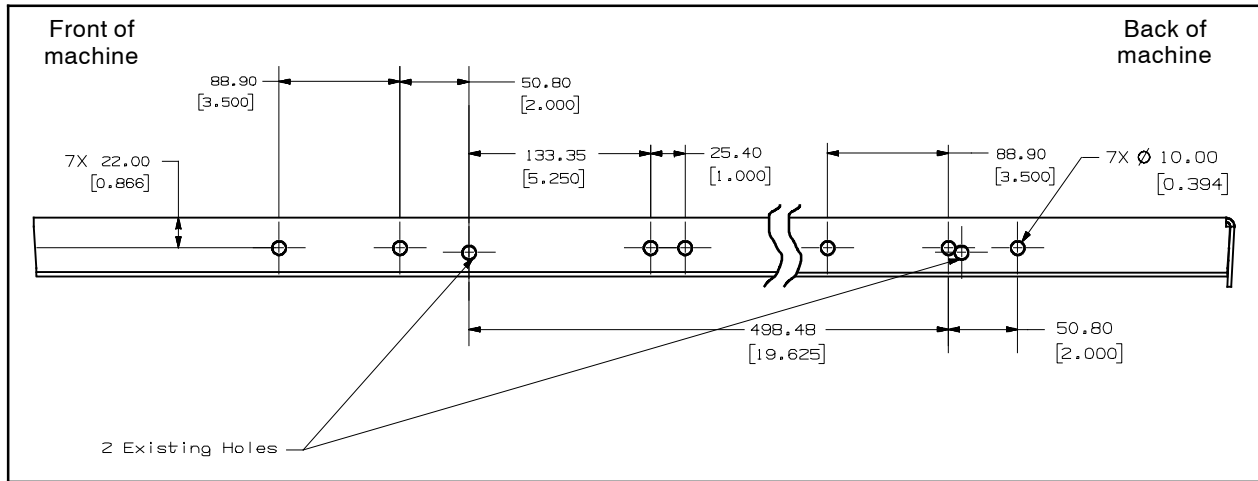

FIG. 45
- 59. Drill seven 10 mm (0.394 in) holes into the operator station lip. (Fig. 45)